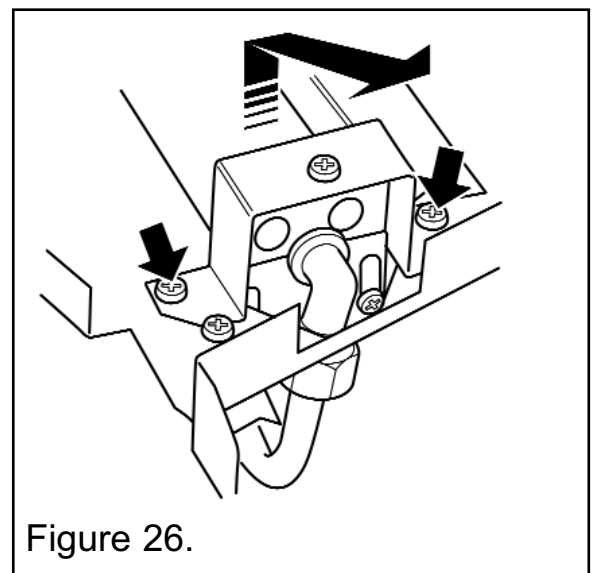

Figure 26.
3. Remove the two screws from the burner clamping plate (See figure 26).